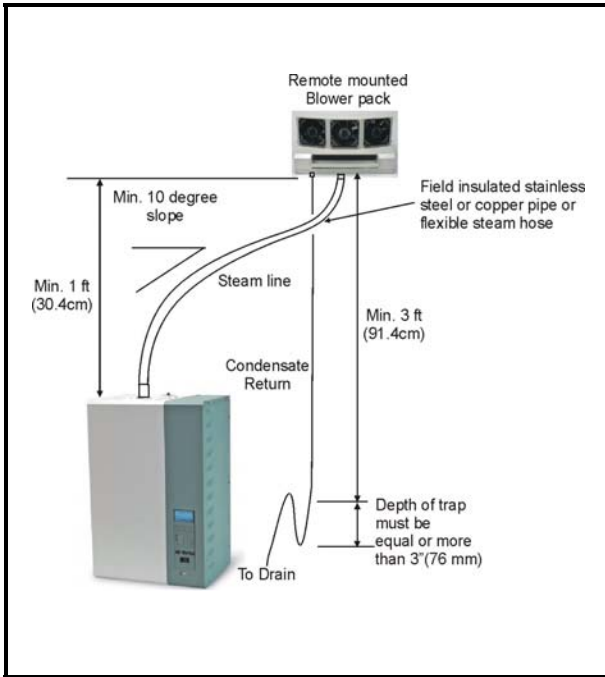
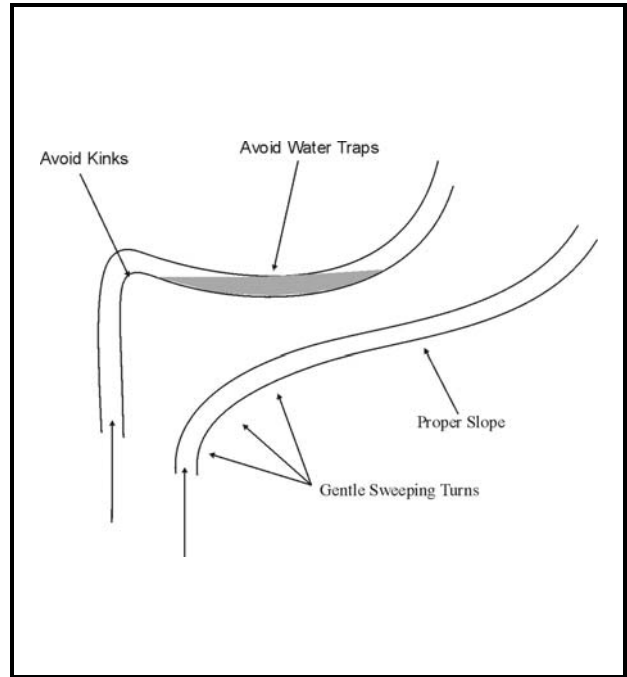
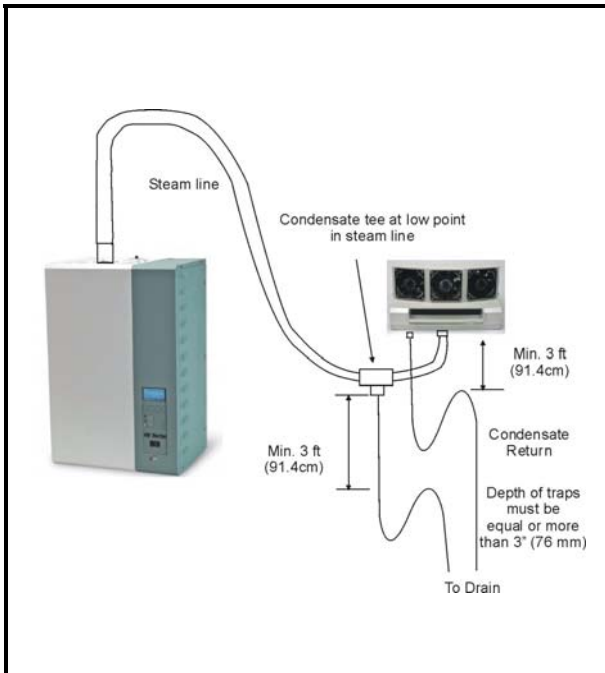

Figure 3. Steam Line Installation
Figure 4. Steam Hose Installation
Figure 5. Condensate Removal
- (1) Field-supplied hard copper tubing or stainless steel tubing with 1/2" thick (min.) insulation is recommended for steam supply. Use NORTEC supplied steam hose to make connection from the humidifiers to the metal lines. See Figure 3 Steam Line Installation.
- (2) Do not install electric zone valves on steam lines. Improper adjustment will over-pressurize the humidifier.
- (3) NORTEC steam supply hose or field-supplied tubing should be sloped downwards from the blower pack to the humidifier. Slope should be at least 2" in 12" (10 degree slope) to promote condensate run back. See Figure 4 Steam Hose Installation. If upward slope is used from the blower pack to the humidifier, the slope should be at least 2" per 12" to promote condensate removal at the blower pack. If this slope is not possible, condensate must be removed before the blower pack. See Figure 5 Condensate Removal.
- (4) Minimize the length of steam line and keep it as straight as possible, minimizing bends. Avoid using 90° elbows. Wherever possible, use long radius turns (using tube bender on oversized copper or pairs of 45° elbows). This will reduce the condensate generated by heat loss. This will also reduce the back pressure and avoid the need to install an extended water trap.
- (5) Ensure that the steam hose does not kink or sag. The steam hose becomes more flexible when hot. The hose should be supported to prevent water traps. Only use steam hose for connection or steam line runs of 5 feet or less. See Figure 4 Steam Hose Installation.
- (6) To ensure odor-free steam, always use NORTEC steam hose. Check steam hose and hose couplings periodically for cracks, breaks, kinks. Replace as required. DO NOT substitute hose. NORTEC is not responsible for health effects or damage from substituted hose.
- (7) For GS, SE, and NH Series using large size remote mounted blower packs (>50 lbs/hr) use 1 5/8" O.D. (Nominal 1 1/2") copper tubing. For steam runs longer than 20 ft, use insulated nominal 2" copper to ensure draining of condensate.
- (8) For electric humidifiers (NHTC & NHPC only) using a small size blower pack (<30 lbs/hr), steam lines require 7/8" O.D. (Nominal 3/4") copper tubing. For steam runs longer than 20 ft, use insulated nominal 1" copper to ensure draining of condensate.
- (9) When using the GS, SE, or NHRS Humidifiers with a RO / DI water supply, all steam lines should be in stainless steel.
- (10) Do not use plastic pipe for steam distribution or hose other than NORTEC supplied. Substitution will void warranty.
- (11) If steam line is routed below the blower pack, or if the blower pack is lower than the humidifier, a condensate trap "tee" will be required to remove water at this low point. Run the condensate from the trap to the nearest drain lower than the blower pack. See Figure 5 Condensate Removal.
- (12) Do not run the steam line more than 1 foot per lb/hr output. Example, 10 lbs/hr should not have a steam run longer than 10 feet. If long runs are unavoidable, the humidifier should be sized larger to compensate for condensate losses and insulated stainless steel or copper must be used.